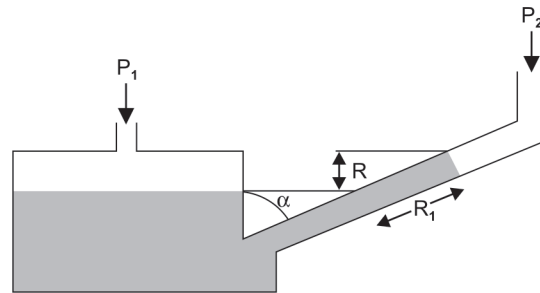

Fig. 1.8: Inclined manometer
b. **Inclined or sloping U-tube manometer:** It is used for measuring the minute differences of two pressures (where accuracy is the major consideration). It is basically similar as differential U-tube manometer, but the tube is inclined at certain angle this time as shown in Fig. 1.8. The construction involves enlarged vertical leg so that due to movement of meniscus this enlargement becomes negligible. Although leg having meniscus is inclined in such a manner that for a small value 'r' it moves a considerable distance along the tube. It results in more deflection in the liquid level (in the tube) for the same change in pressure. Thus enables the measurement of small pressure changes with high accuracy.